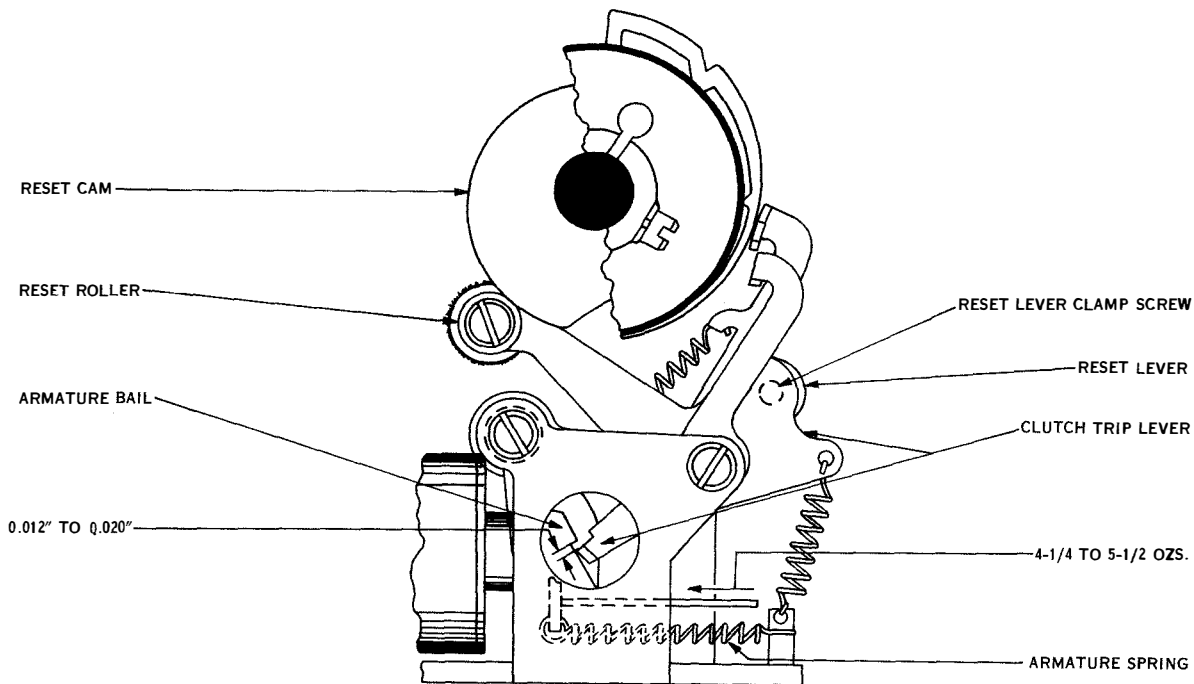

Figure 7-76. Clutch Trip Reset Lever and Magnet Armature Spring Tension
(4) **CLUTCH TRIP RESET LEVER.** (See figure 7-76.)—When the clutch magnet is de-energized and the reset roller is on the high parts of its cam, there should be 0.012 to 0.020 inch between the latching surface of the clutch magnet armature bail and the lower extension of the clutch trip lever. To adjust, loosen the reset lever clamp screw and position the clutch trip lever.
(5) **CLUTCH MAGNET ARMATURE SPRING TENSION.** (See figure 7-76.)—With the clutch magnets de-energized and the reset roller on the high part of its cam, place the push end of an eight-ounce scale against the clutch magnet armature bail just above the armature spring, and push parallel to the spring. It should require 4¼ to 5½ ounces to start the armature bail moving away from the clutch trip lever extension.